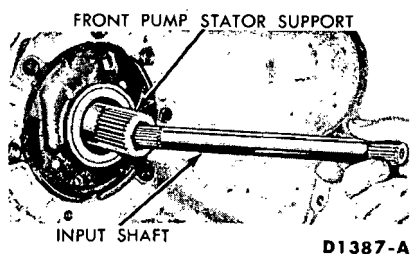

FIG. 42—Removing or Installing Input Shaft
7. Remove the dial indicator and remove the input shaft from the front pump stator support (Fig. 42).